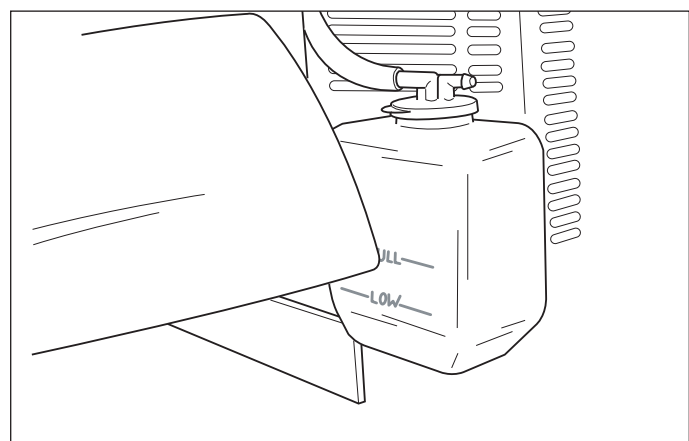

Figure 18. Radiator Overflow Bottle
3. Check the coolant level in the radiator overflow bottle (Figure 18). If coolant level is low, add coolant until level is at the "FULL" line. Proper coolant mix is a 50/50 mixture of ethylene glycol and distilled water. See engine owners manual for engine coolant specifications.